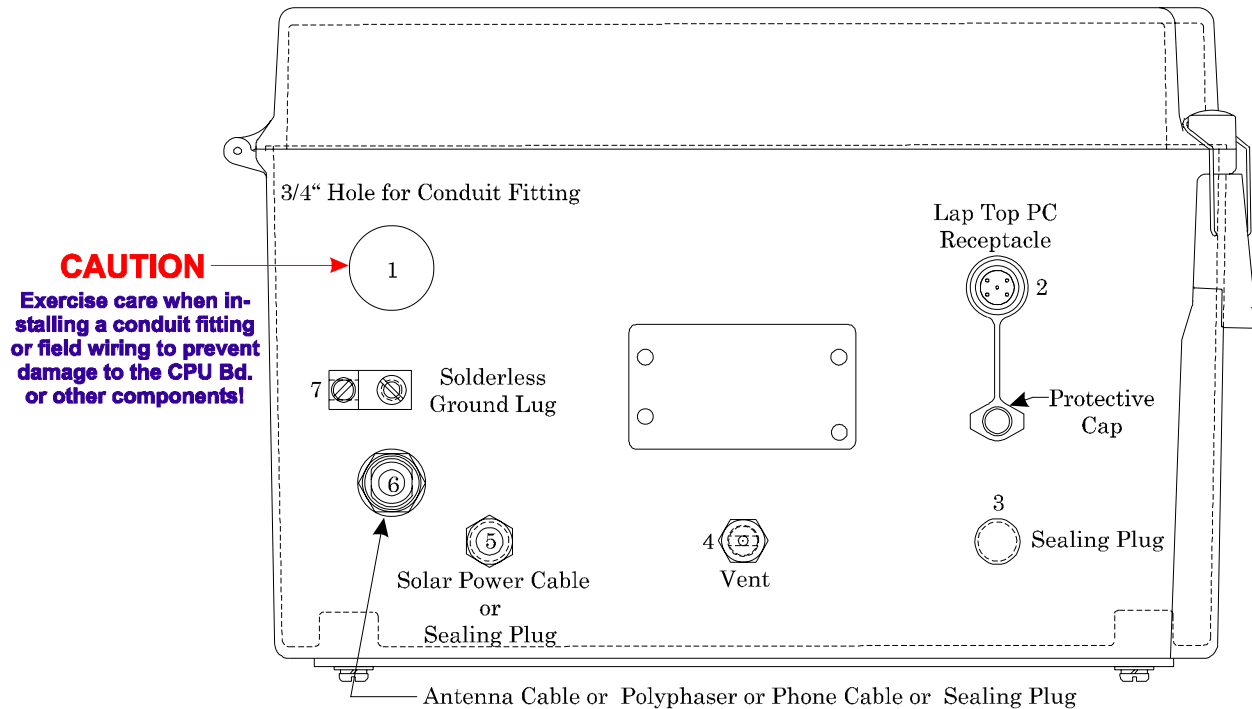

Figure 6 - Bottom View of TeleRTU Plus (Similar to TeleFlow Plus)
5. Install 3508 Transmitter wiring to the ETIB Board (see Section 2.2.1). Wiring should be routed through a 3/4" conduit fitting (user installed) on the bottom of the enclosure (see Figure 6).